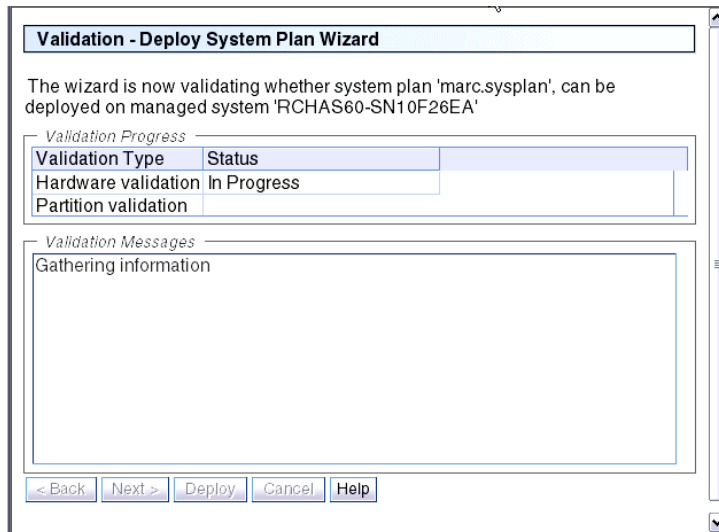

Figure 4-21 Deployment validation in progress
3. Figure 4-21 shows you the validation progress. When this has completed, you can examine all the related messages, those messages that are successful as well as those messages that are unsuccessful. We provide information about the validation types in 4.3.1, “Deployment validation process” on page 151.